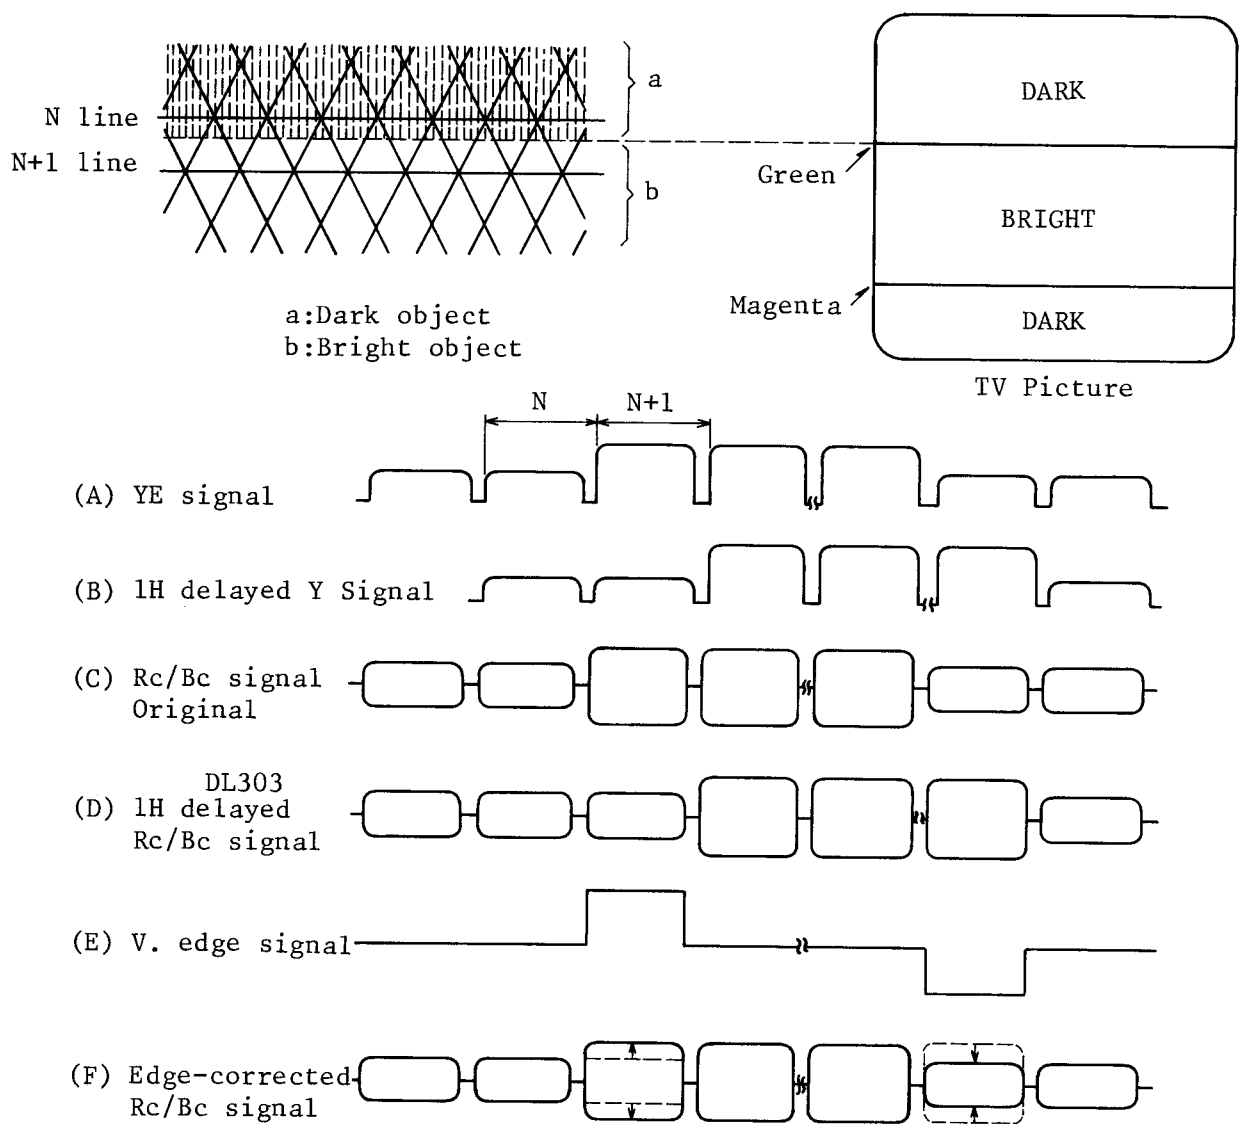

Fig. 12. Color Correction
When the camera views a dark-to-bright, or bright-to-dark transition as shown in Fig. 12, the undelayed Rc/Bc signal appears as in Fig. 12 (C), and the Rc/Bc signal delayed one line (1H) appears as in (D). When we make the transition from dark to bright the Rc/Bc (C) and (D) signals are not of equal level on the  $N + 1$  line and an error signal (green) is created along the vertical edge of the transition.